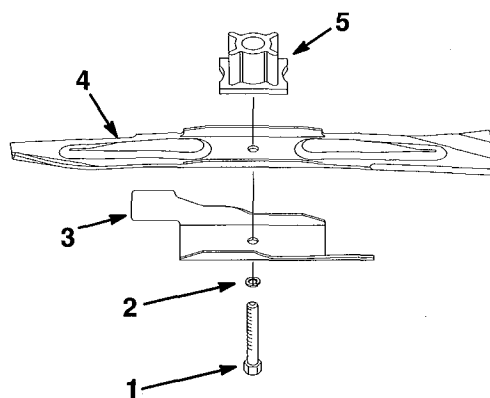

Figure 25
5. **REMOVING BLADE**—Grasp end of blade using a rag or thickly padded glove. Remove blade bolt, lockwasher, blade accelerator, blade and retainer (Fig. 25).